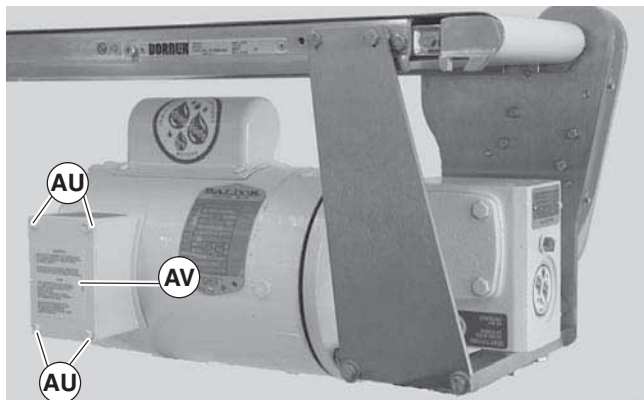

Figure 46
1. Loosen terminal box screws (Figure 46, item AU) and remove cover (AV).